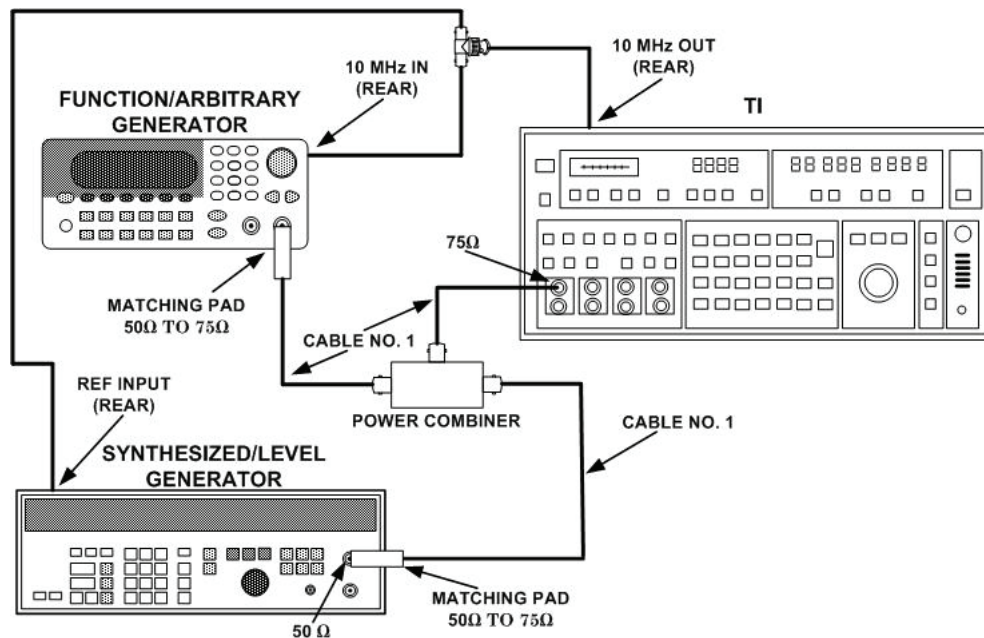

Figure 5. Wideband power accuracy setup.
(1) Connect equipment as shown in figure 5.
(2) Press **TI ENTRY [RECALL], [0], MEASUREMENT MODE [WIDE BAND], MEASUREMENT/ENTRY [AVE]**, and **TERMINATION [75 Ω]** pushbuttons.
(3) Set function/arbitrary generator for **20 kHz** and amplitude for **+8.7 dBm**.
(4) Set synthesizer/level generator for **30 kHz** and amplitude for **+8.7 dBm**.
(5) Press **TI ENTRY [RDNG OFFSET]** and **MEASUREMENT/ENTRY [OFFSET]** pushbuttons.
(6) Set synthesizer/level generator to **10 MHz**. TI will indicate between ± 0.8 dBmO.
- (1) Connect equipment as shown in figure 5.
- (2) Set TI **ENTRY [RECALL], [0]**.
- (3) Set function/arbitrary generator frequency for **11004 Hz** and amplitude for **-56 dBm**.
- (4) Set synthesizer/level generator frequency for **11104 Hz** and set amplitude level to **-76 dBm**.
- (5) Press TI **MEASUREMENT ENTRY RANGE [100 dB]**, and **ENTRY, [FREQ], [1], [0]**, and **[kHz +dB]** pushbuttons.
- (6) Press TI **MEASUREMENT MODE (blue)** and **[0 JITTER]** pushbuttons. TI phase jitter will be from 10 to 13 degrees p-p.
- (7) Disconnect function/arbitrary generator and power combiner from setup.
- (8) Connect synthesizer/level generator **75 Ω OUTPUT** to TI **TERMINATION 75 Ω** input.
- (9) Press TI **ENTRY [RECALL]**, **[0]**, and **TERMINATION [75 Ω]** pushbuttons.
- (10) Set synthesizer/level generator for a frequency of **50 kHz** and an amplitude level of **-59.8 dBm**.
- (11) Press TI **MEASUREMENT/ENTRY, FULL SCALE [ENTRY]**, and **RANGE [100 dB]** pushbuttons.